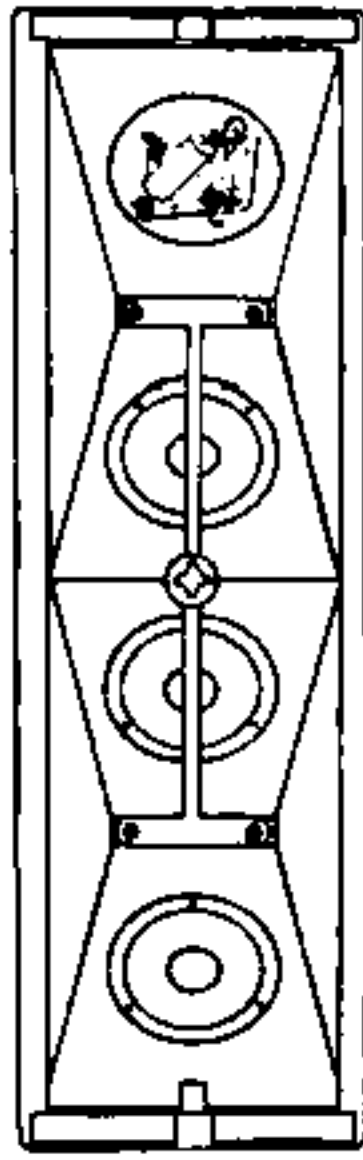

FIG. 4
2. Lift acoustic foam up and back to expose Directivity Control. (See Fig. 4 for location of circuit).